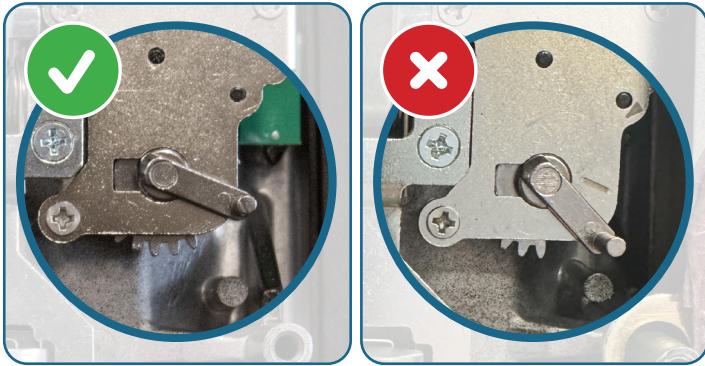

Fig. 1
- Adjust the safety release actuator to align with the marked line on its housing. (**Fig. 1**)